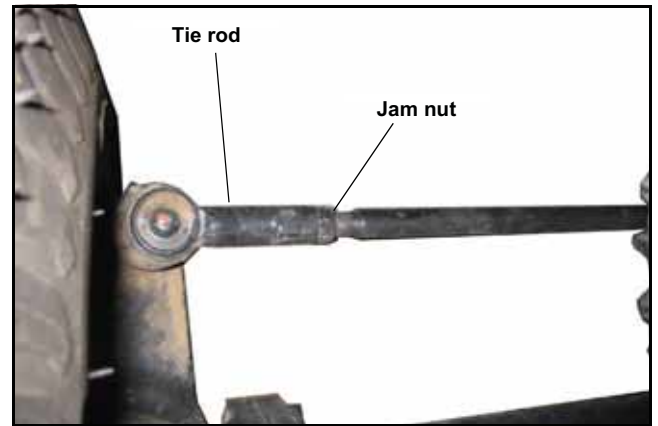

Figure 4-38
5. If the toe-in must be re-adjusted to meet the dimensional requirements, loosen the jam nuts on either end of the tie rod. Figure 4-38